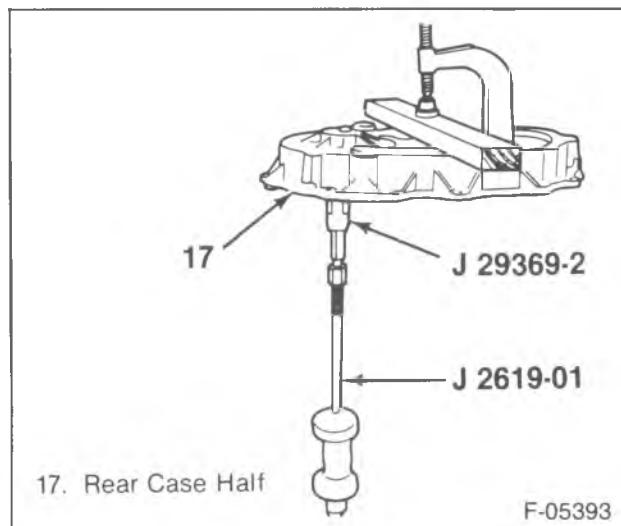

Figure 9—Front Output Shaft Rear Bearing Removal
21. Front output rear bearing (24) from the rear case half (17).
- Using J 2619-5, hammer the bearing from the case (figure 9).
22. Mainshaft bearing (6) from the oil pump retainer (8).
23. Magnets (25) from the front case half (45).